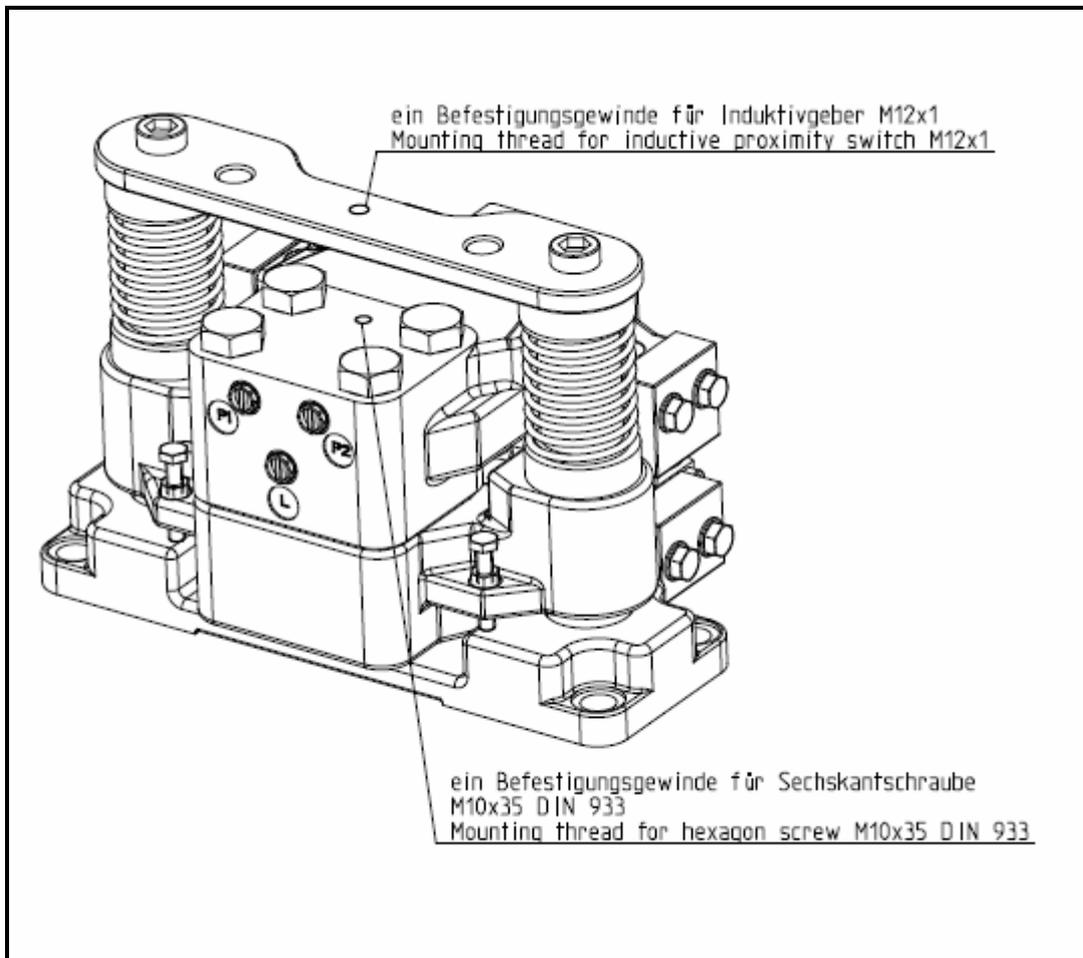

Fig. 13.3
- The inductive transmitter is to be arranged according to Fig. 13.3. When the brake is actuated, the brake engages and the distance between the release screw and the inductive transmitter becomes smaller. As soon as the limit value is reached, the inductive transmitter is damped in the pressurised state. The LED of the inductive transmitter will shine.